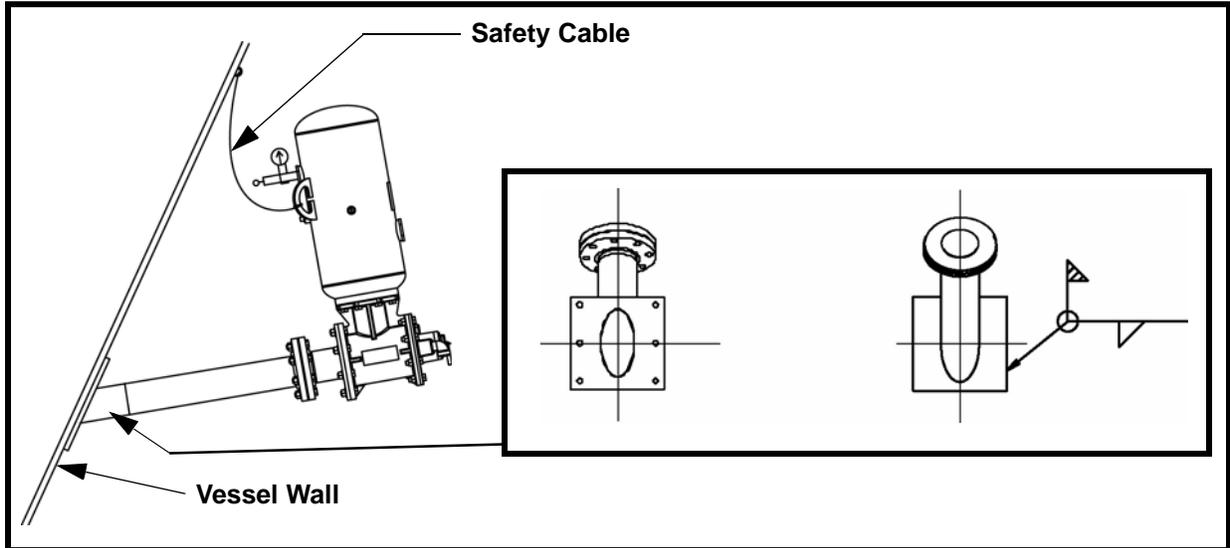

Figure 3. Installing 30-Degree Mounting Plate
Each air cannon’s serial and model number is shown on a plate attached to the tank (see Figure 3). Serial and model numbers must be referenced when ordering parts from Martin Engineering or representative, and on all correspondence.
- a. If using 30-degree mounting plate (Figure 3), cut hole in storage vessel for each mounting plate using templates on last page of this manual. If templates are missing, contact Martin Engineering or representative. Place mounting plate over hole and field weld to vessel skin.